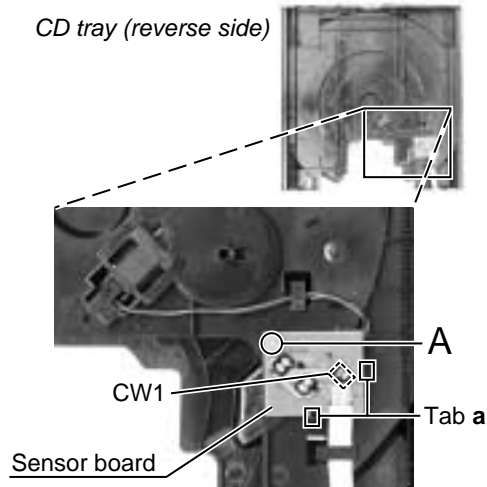

Fig.5
■Removing the sensor board (See Fig.5)